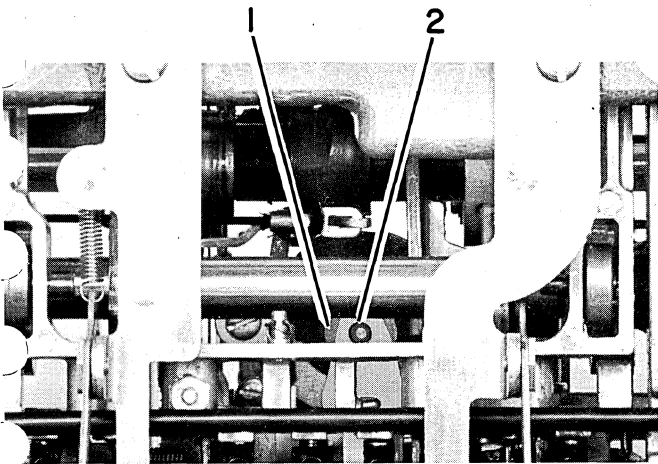

FIGURE 16. Lower Ball Socket and Tilt Ring Removal
8. Loosen the rotate pulley setscrew (#1, Figure 16).
9. Use the butt end of a small spring hook as a follower to push out the lower ball socket (#2, Figure 16). Note: This prevents the wedge from being lost. When replacing the socket be sure the pin is pointing toward the front-left and right-rear corners.